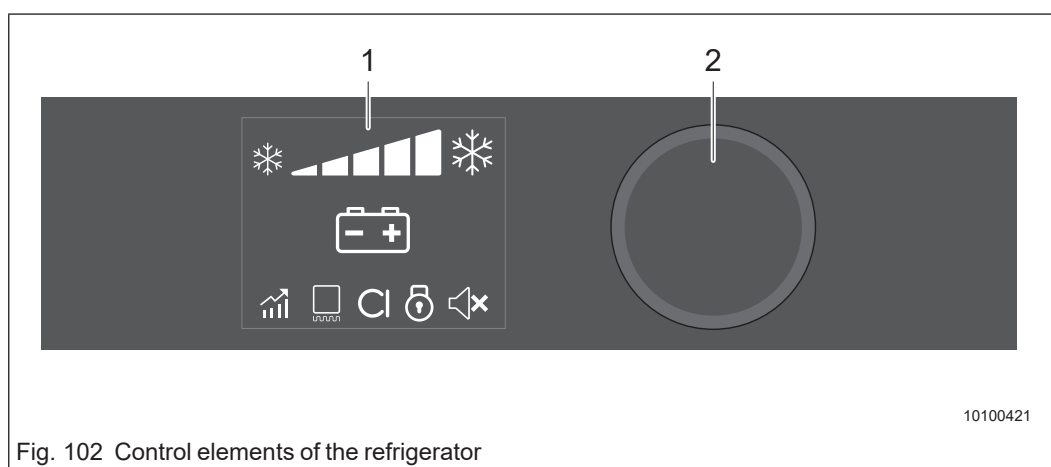

Fig. 102 Control elements of the refrigerator
- ➔ Press and hold the control knob (Fig. 102/2) for two seconds.
- ➔ Press and hold the control knob (Fig. 102/2) for four seconds.
- ➔ Press the control knob (Fig. 102/2) to activate the display (Fig. 102/1).